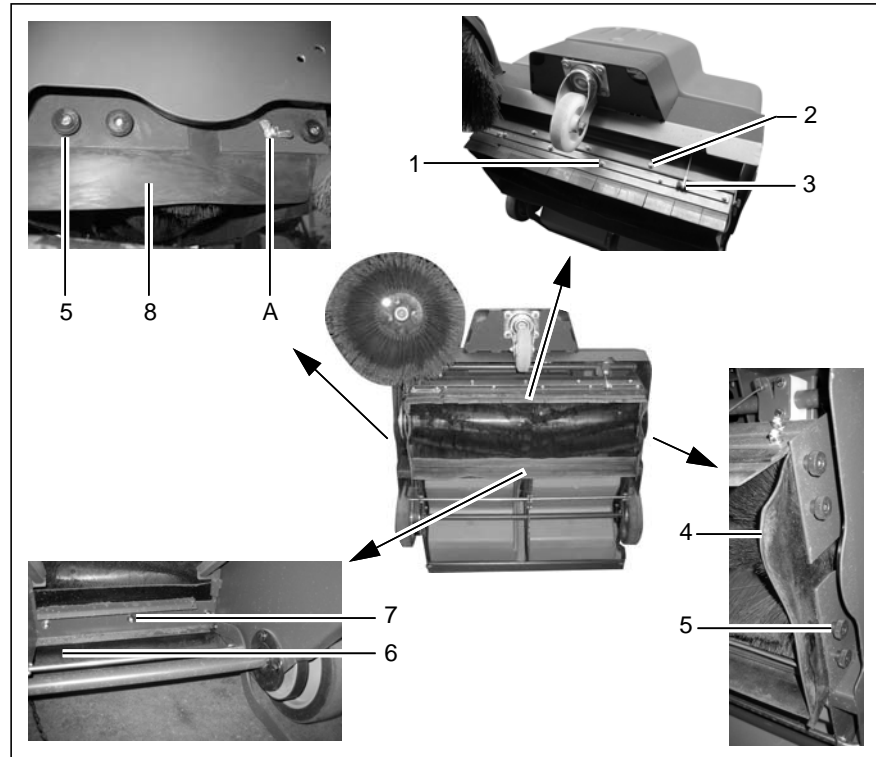

Fig. 22
2. Unhook the Bowden cable which raises the folding apron (Fig. 22/3).
3. Disassemble the folding apron (Fig. 22/1) together with its holder: Unscrew the screw connections (Fig. 22/2).
4. Unscrew the screw connections (Fig. 22/2) in the clamping rail and remove the clamping rail.
7. Assemble the folding apron (Fig. 22/1) together with its holder and adjust the folding apron (Fig. 22/1) so that it lies lightly on the ground.
8. Hook in the Bowden cable which raises the folding apron (Fig. 22/3).
9. Unscrew the screw connections (Fig. 22/5) in the side aprons (Fig. 22/4+8).
10. Change the sealing strips and adjust the side aprons (Fig. 22/4+8): There must be approx. 0.08 in clearance to the floor.
11. Screw the screw connections (Fig. 22/5) back in the side aprons (Fig. 22/4+8). Also screw the ground of the wing nut at Position A (Fig. 22/A).
13. Unscrew the screw connections (Fig. 22/7) in the rear aprons (Fig. 23/1+2).
14. Change the sealing strip and adjust the rear apron (Fig. 22/6): The clearance of the rear apron (Fig. 23/2) from the ground must be 0.08 in.
15. Screw the screw connections (Fig. 22/7) back in the rear aprons (Fig. 23/1+2).